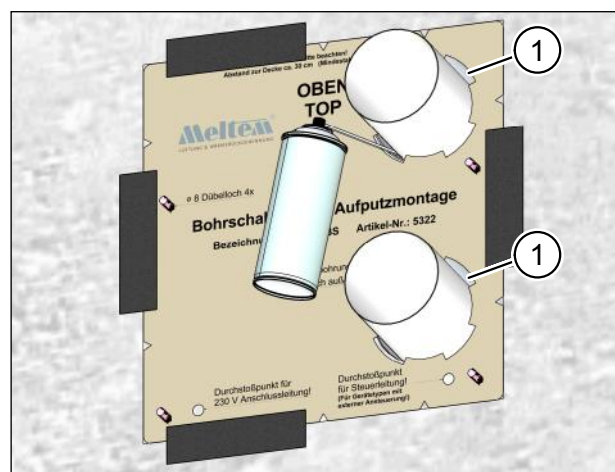

Fig. 16: Fixing the ventilation pipes
- ▶ Spray expanding foam through the recesses (item 1 in Fig. 16) in the drilling templates on the internal and external walls in order to provisionally fix the ventilation pipes.